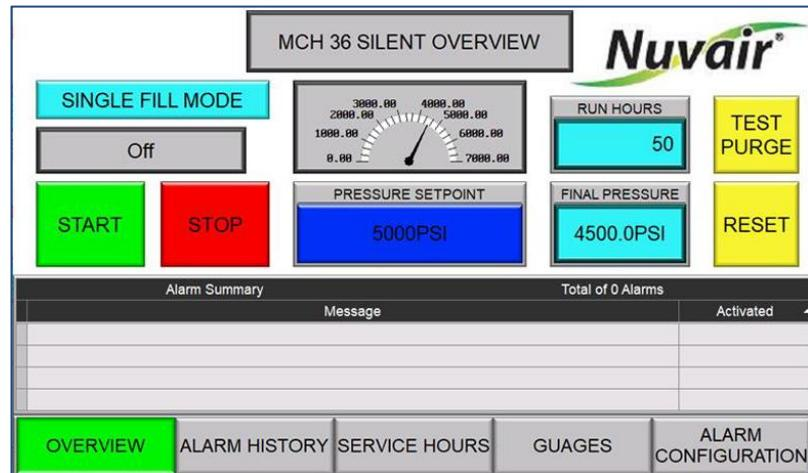
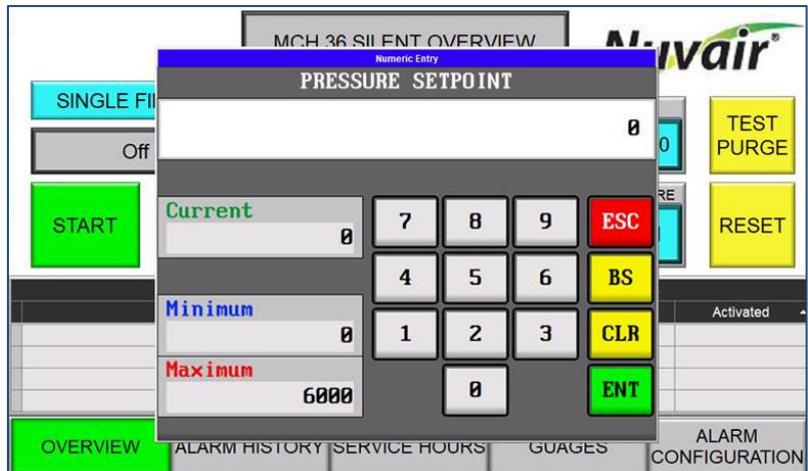
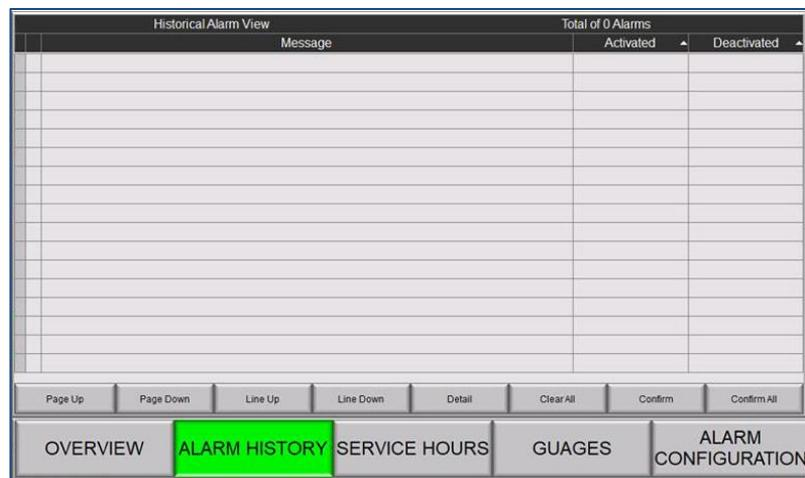

Figure 3. Dashboard overview screen.
Figure 4. Pressure Setpoint input screen.
Figure 6. Alarm History screen.
2. Select the blue box under “PRESSURE SETPOINT” (Figure 3) and the Pressure Setpoint screen appears (Figure 4).
5. If “SINGLE FILL MODE” is displayed in the in the upper-left corner (Figure 3), the compressor will not restart. If “AUTO RESTART MODE” is displayed, the compressor will automatically restart when the internal pressure drops.
The overview screen (Figure 3) provides the general status and operation of the compressor. Using this screen, the compressor functions include:
This page is a record of alarm or service events (Figure 6). The alarm event type will be noted, when the alarm activated, and when the user clears or “deactivates” the alarm. Service events will record the date it was reset.
When an alarm event threshold is reached, the button color turns yellow and the system will either (a) sound an alarm, and/or (b) shut down the compressor. The alarm event is logged and will display in the Alarm History screen (Figure 6) and under the Alarm Summary section of the Overview screen (Figure 3).